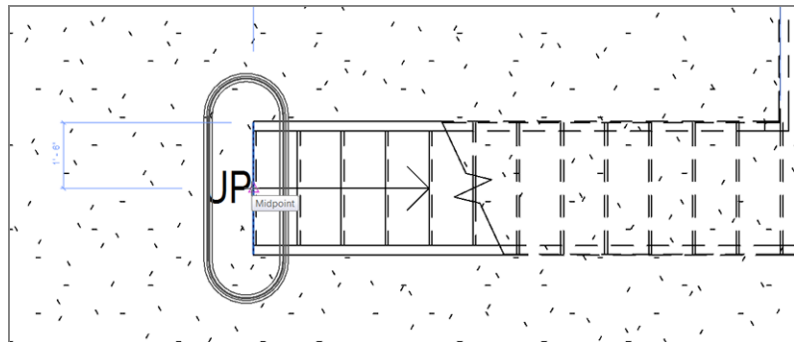

FIGURE 10.68: Placing the landing
5. Place the landing under the last tread at the point shown in Figure 10.68.